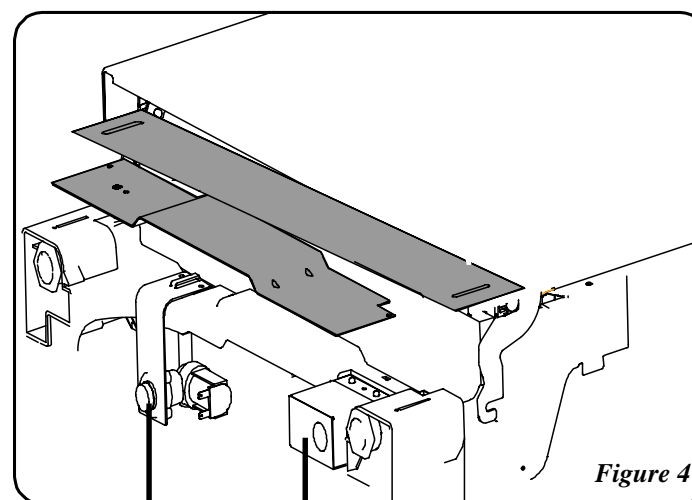

Figure 4
3. Remove two (2) screws at front of the kickplate brace using a #2 Phillips screw driver. Slide up and pull off.
4. Locate water inlet valve behind kickplate on bottom left underside of unit. See Figure 4. The valve has a  $\frac{3}{8}$ " NPT female fitting.
5. Wrap 90° elbow (not included) with pipe thread tape (or apply joint compound) and thread it into water inlet valve. When tightened, elbow should point toward the left. To prevent bending of bracket or breaking of valve, avoid overtightening. See Figure 4.
junction box on right underside of unit behind kickplate assembly. See Figure 4. Determine where you will connect to hot water supply. Review Figure 4 and note the location of water inlet valve. Determine where you will connect the drain hose.
2. Route water line to water inlet valve as shown in **Figure 4**.